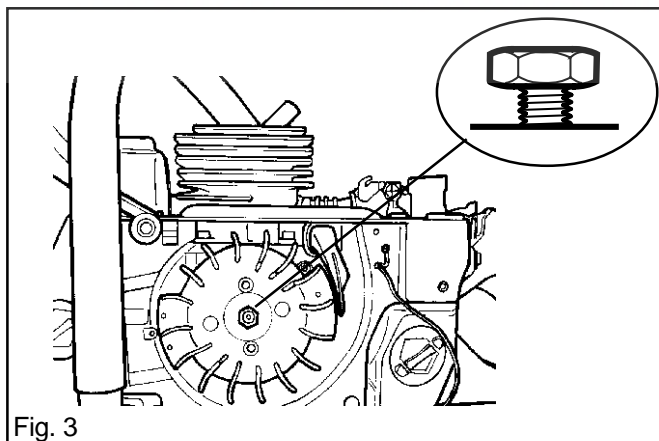

Fig. 3
7. Release the flywheel nut. Unscrew the nut until it comes level with the outer end of the shaft thread. See fig. 3.